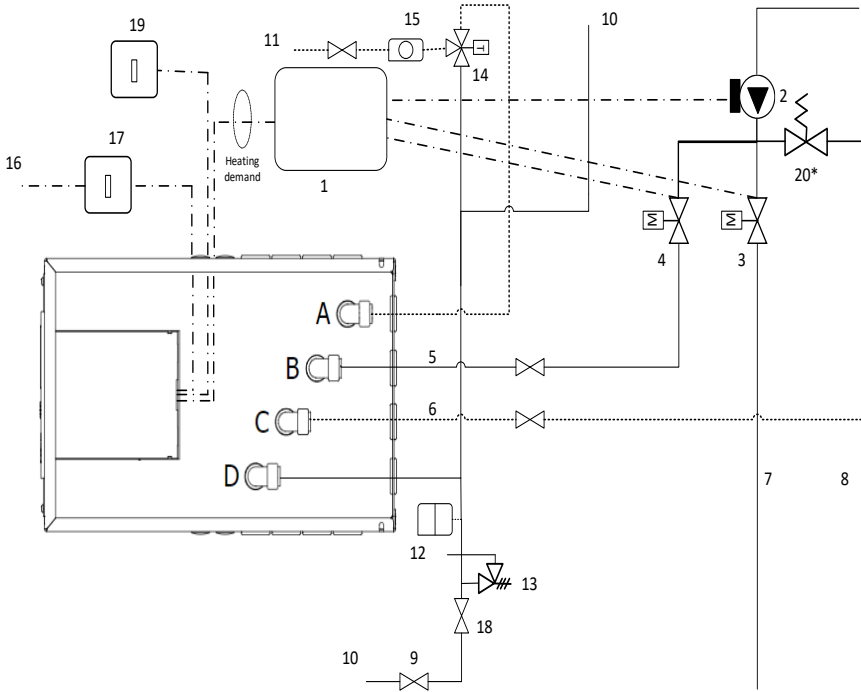

Figure 12.1: Example wiring option 1 schematic (see Figure 3 for piping and electrical options available)
- Run and connect 3 Core mains power supply cable (16A, minimum 2.5mm2 CSA) from the local 2-pole isolator to the Heat Battery controller (Figures 12.1 and 12.2).